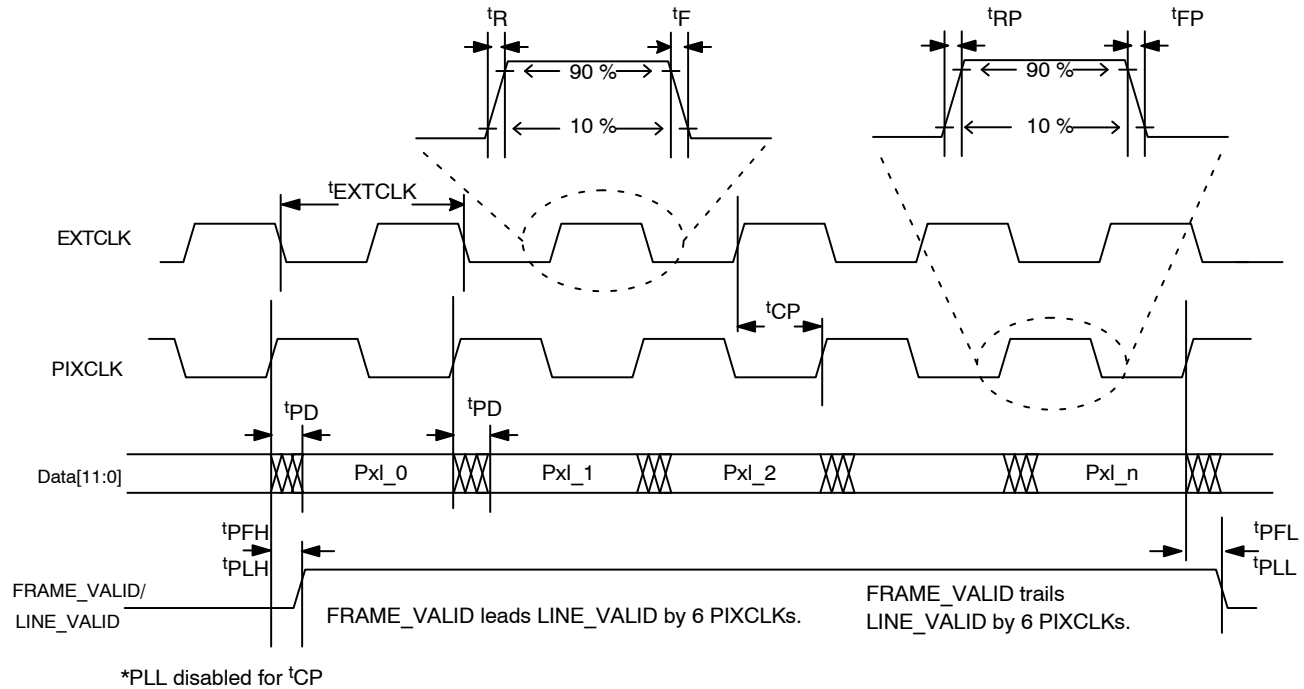

Figure 45. I/O Timing Diagram
See Figure 45 below and Table 22 for I/O timing (AC) characteristics.